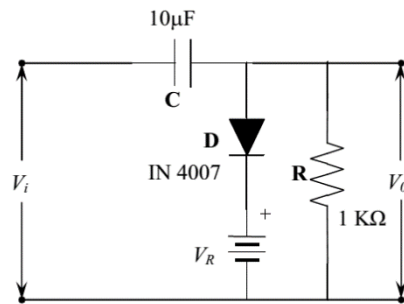

Figure:5
4. Repeat the above procedure for the different circuit diagrams as shown in figures 5, 7, 9, 11 and 13.